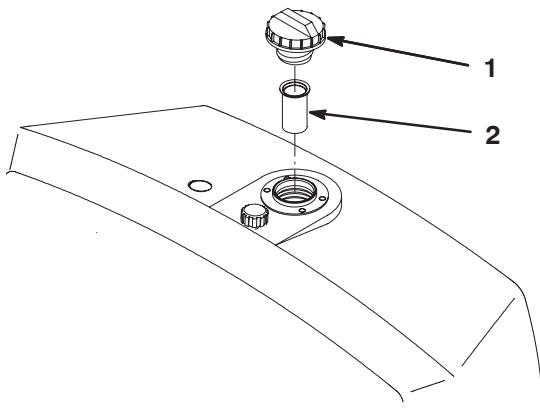

Figure 28
2. Remove the cap from the reservoir and check the level of fluid. The fluid should be up to the bottom of the screen in the filler neck (Fig. 28).